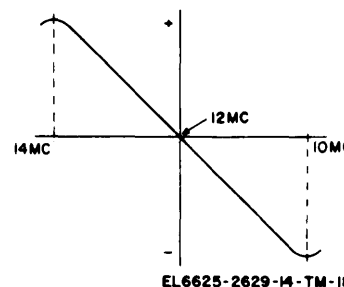

Figure 7-11. Discriminator response curve.
e. Loosely couple a marker to the probe and check the location of the 10-, 12-, and 14-MHz markers. These points should be as shown in figure 7-11.